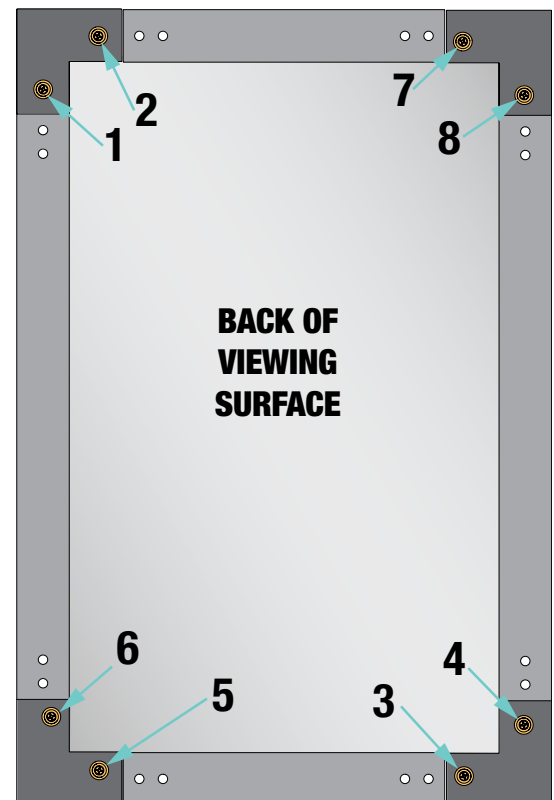

Figure 4
4. Starting away from the corners, wrap surface around the frame and snap onto the back of the frame working toward the corners (Fig. 4). Viewing surface should completely cover the front of the frame.